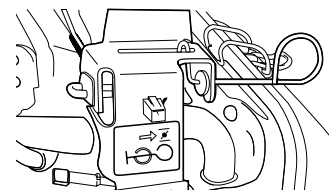
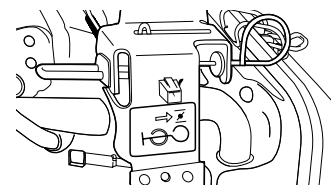

Fig.13 CHOKE LEVER CLOSED
Fig.14 CHOKE LEVER OPEN
4. If the engine is cold, pull the choke lever out to the closed position shown in Fig.13. If the engine is hot, set choke to open position shown in Fig.14.
7. As the engine warms up, move the choke lever to the open position shown in Fig.14.